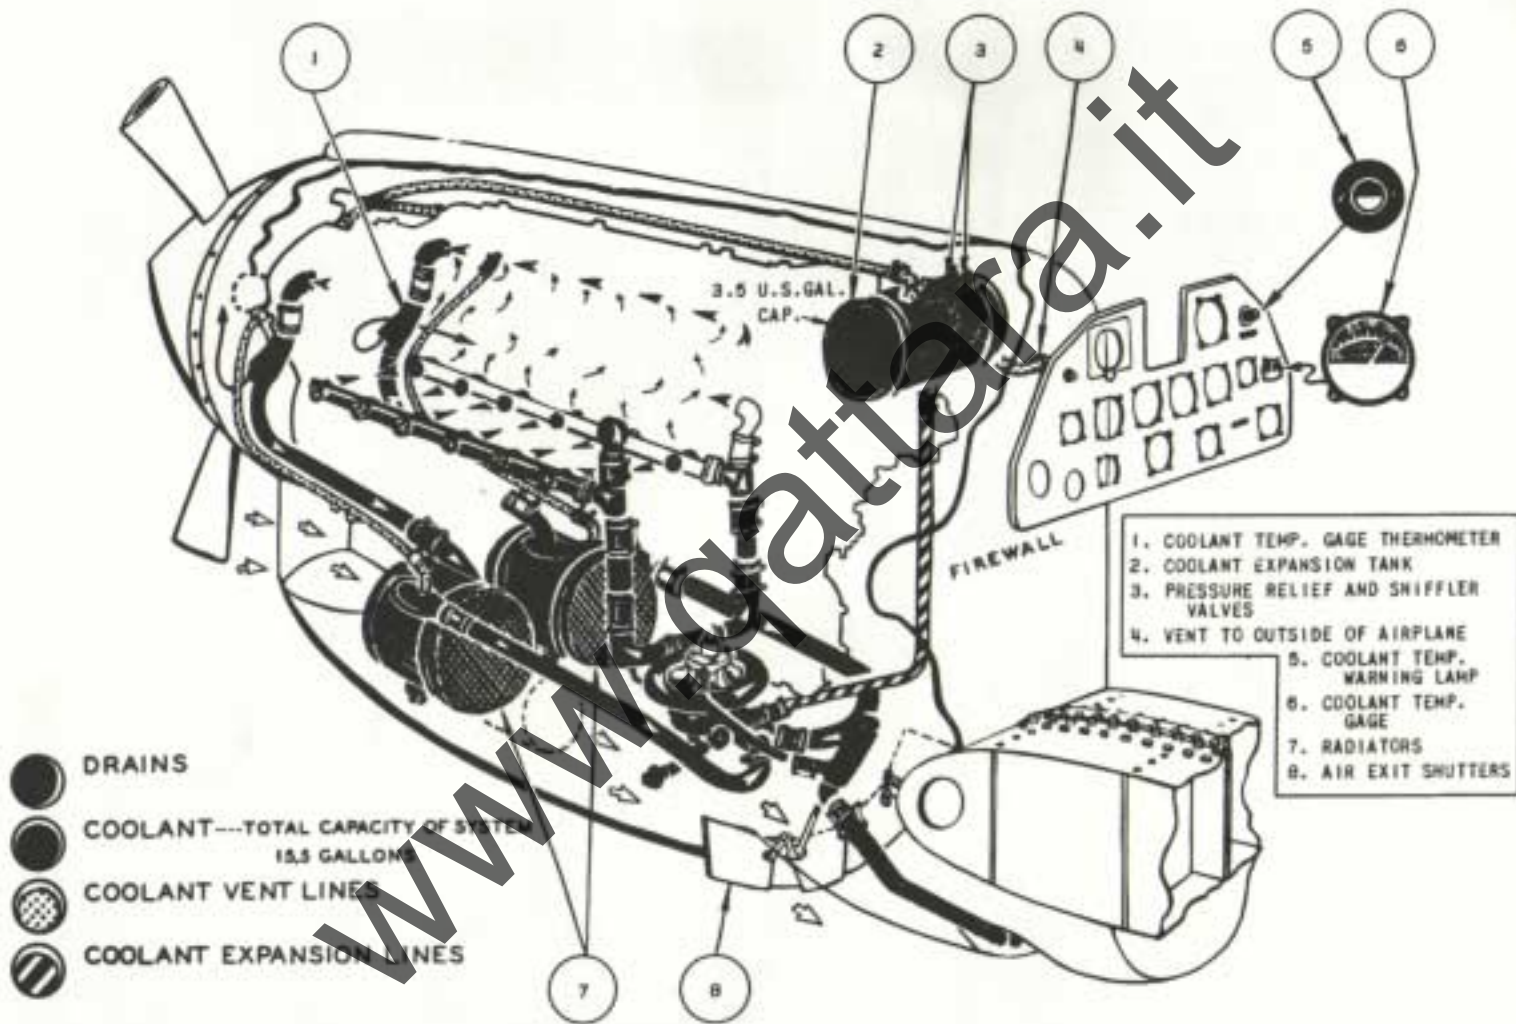

Figure 6 - Cooling System Diagram
h. Cooling System. - See figure 6.